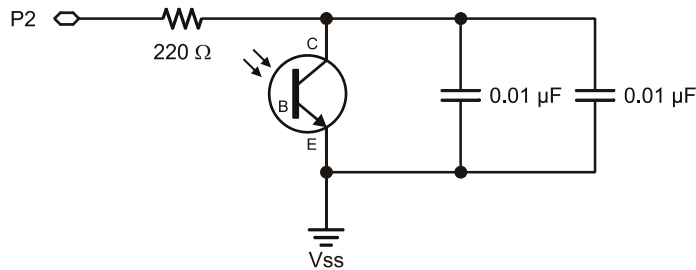
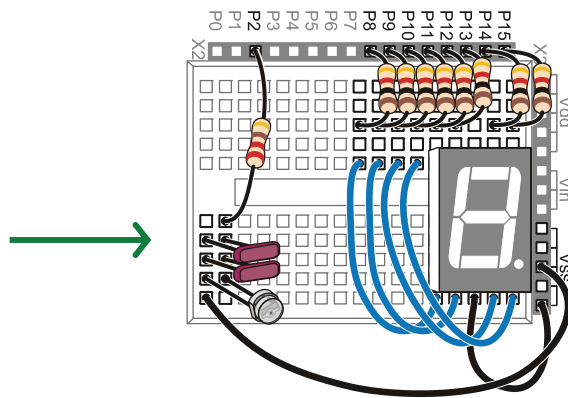

Figure 7-14
Figure 7-15
When you connect capacitors in parallel, their values add up. So, if you plug in a second 0.01 μF capacitor right next to the first one as shown in Figure 7-14 and Figure 7-15, the
- ✓ Connect the second $0.01 \mu\text{F}$ capacitor right next to the first one in the light sensor portion of the light meters circuit in Figure 7-14 and Figure 7-15.